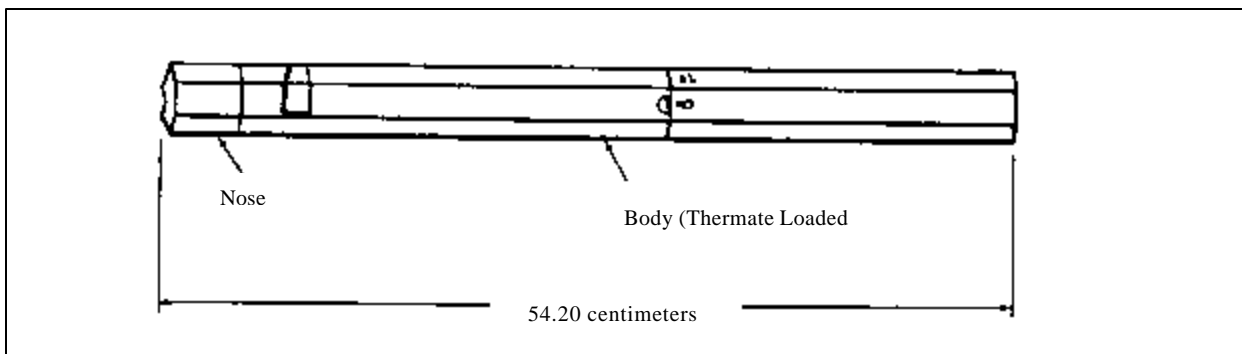

Figure 24. U.S. Incendiary bomb (impact-fuzed)
- (d) Small incendiary bombs, such as the one shown in Figure 24, are usually contained in large cluster bombs. They are scattered over a large area and are normally impact-fuzed.